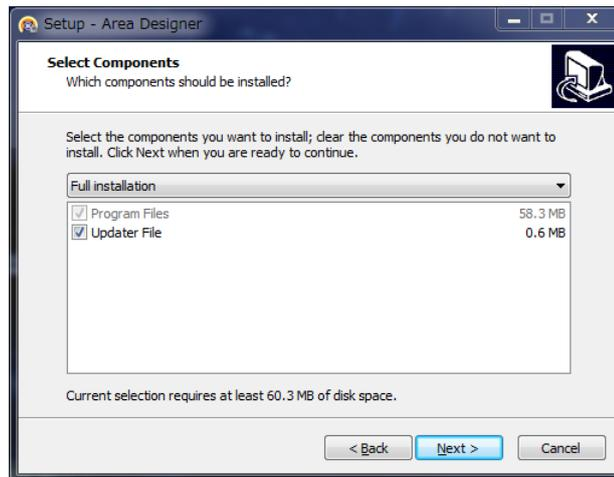

Figure 2-3 Select component
5. As shown in figure 2-3 click “next” then user will be proceed to specify the program group of “Area Designer”. If there is no particular specification then click “next”.